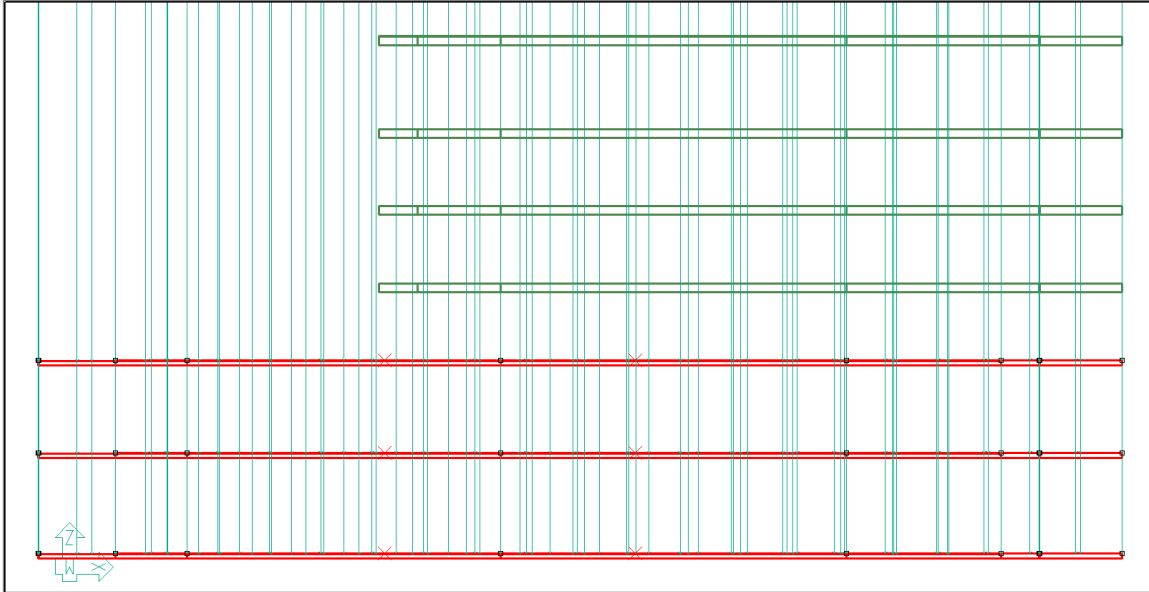

FIGURE 8-16
- The user will now see green lines representing the projection of the load as shown in **FIGURE 8-16**. We have applied a 40psf area load to each of the Level 1 through Level 3 slabs under the *Live Load* case.